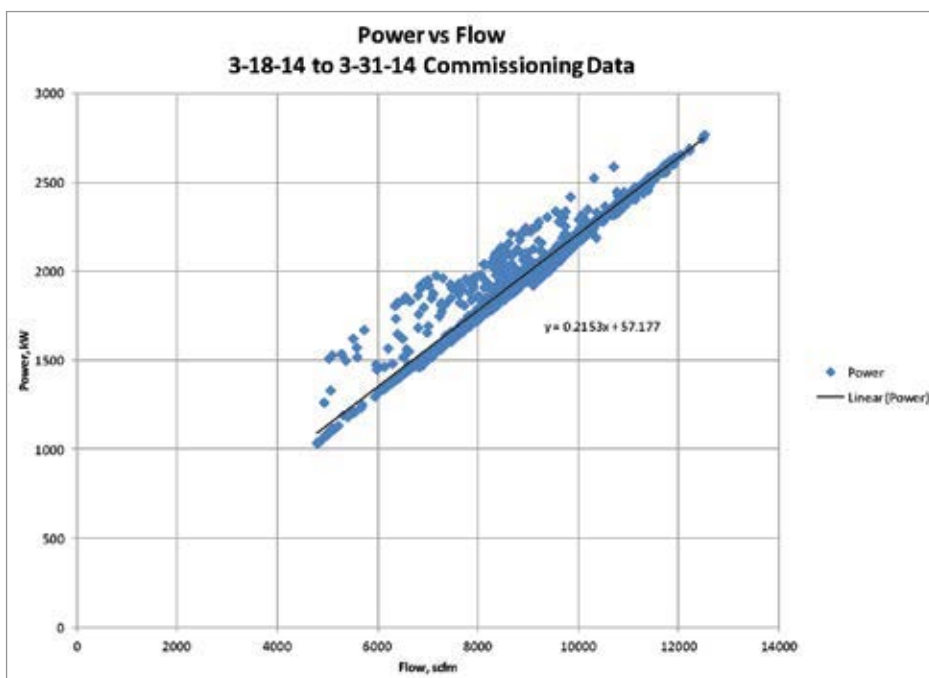

Figure 2. Total Power vs. Flow Scatter Plot
6. **Total Power vs Total Flow.** See Figure 2 for an example. The total power and flow values need to be averaged over about 5-10 no-load cycles, maybe a 10-min or longer smoothing interval. Then, they are correlated and plotted on an X-Y plot. The slope and intercept can be calculated in Excel. The intercept is
If you wanted one performance indicator to determine if an air compressor controls project was operating efficiently, it would either be **total no-load power** or **total blow-off**. The project that Figure 2 comes from had a total of 4,000 hp of compressors on line. The no-load power could have overwhelmed the system efficiency, so master controls had to minimize it. ***Even though there were four 700 hp compressors, two of which had a “no load” power of > 400kW each, we got the average total system no-load waste to 21 kW.***
Figure 2 comes from the same project that had the potentially high no-load power described in Figure 1. System controls tuning reduced the amount of time that the compressors were in the no-load condition, giving the total system a very efficient performance curve, almost zero power at zero flow. That “Y intercept” is a very important measurement of system efficiency, influenced by largely by the total no-load power.